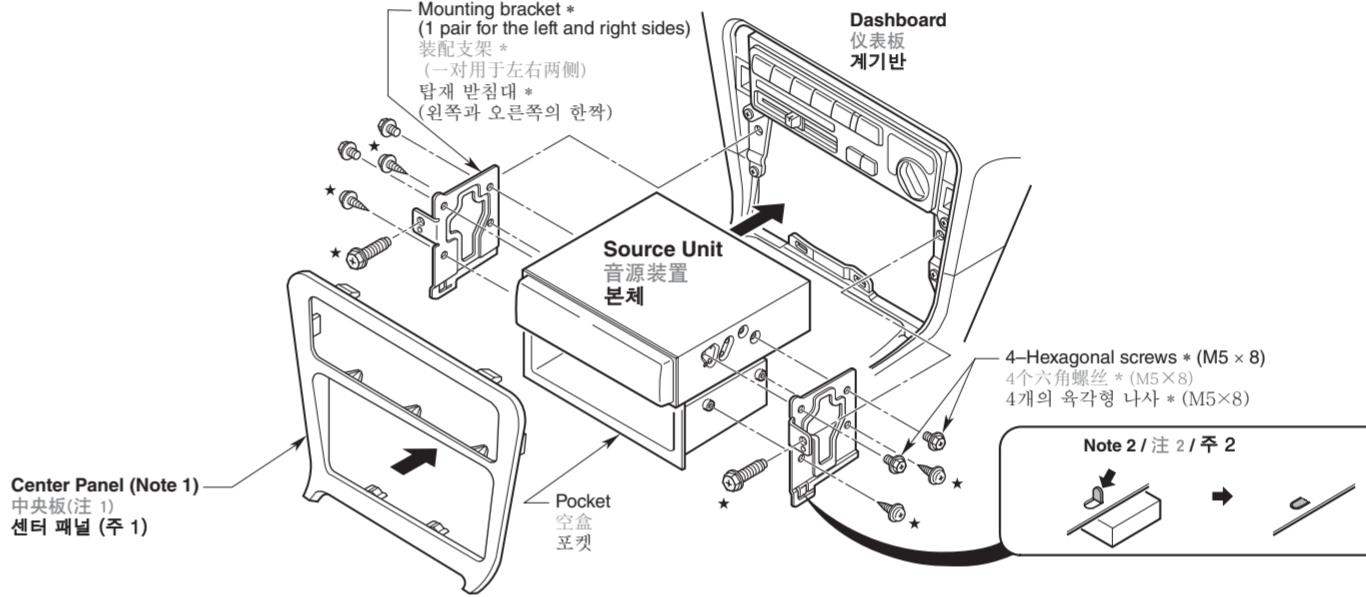

Figure 7 / 图 7 / 그림 7
If the vehicle is equipped with a factory-installed radio, install the source unit with the parts and screws marked (*) (Figure 7).
- Secure the mounting brackets to the chassis as shown in Figure 7. Holes are pre-tapped for TOYOTA and NISSAN vehicles; modification, such as drilling new holes, of the mounting brackets may be required for other models.
如果汽车装备有出厂时安装好的收音机, 请用带星号(★)的零件和螺丝安装音源装置(图7)。